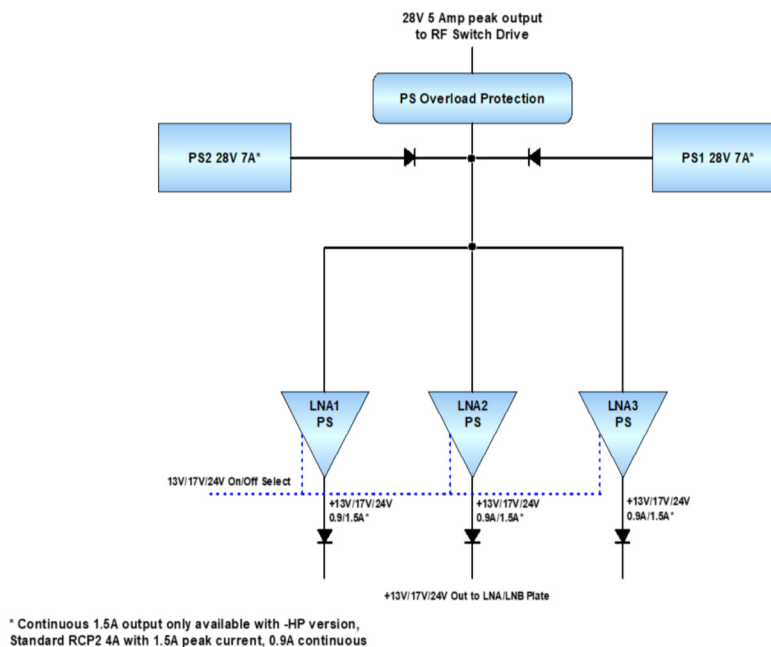

Figure 6: Block Diagram, Power Supply Configuration
A block diagram of the controller is shown in Figure 6. Two power supplies are provided in the controller. These supplies can be connected to two independent AC sources for absolute system redundancy. Either supply is capable of operating the controller and its associated transfer switches. Both power supplies have universal input capability operating over an input voltage range of 85 to 265 VAC and line frequencies of 47 to 63 Hz. The power supplies have a power factor of 0.93 ensuring minimum line harmonic products. Each power supply produces +26 VDC.
**⚠ Note for 24V 1500 mA channel output:** In order to provide an equal load to both internal AC/DC supplies, channels derive their power asymmetrically: Channel 1 from PS2, Channel 3 from PS1; and Channel 2 from either PS2 or PS1. See Figure 6. This configuration allows default standby Channel 2 to power up in case one of the AC/DC power supplies fails. In order to conserve power from the remaining power supply, the LNA/LNB channel will reduce its power output to 13V, 900 mA.